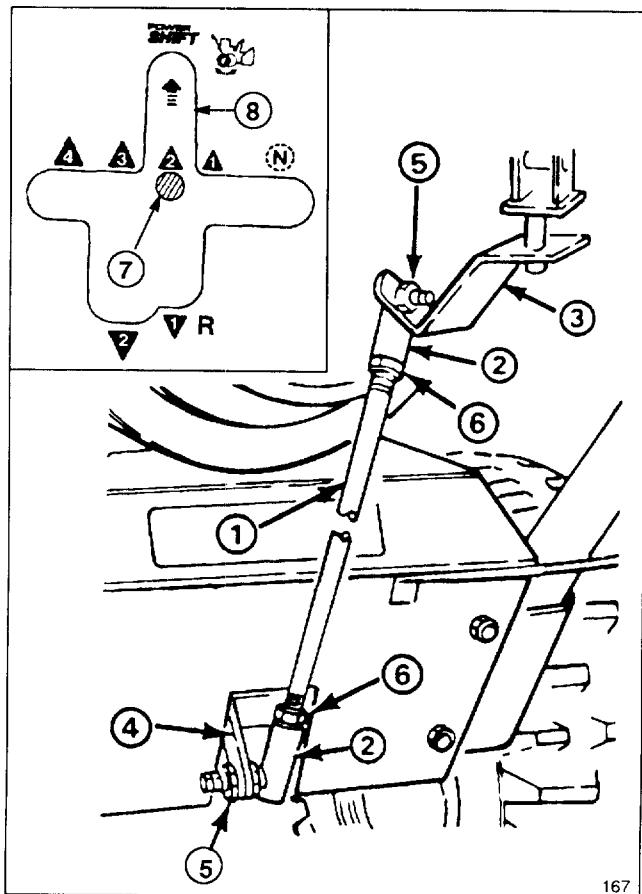

Figure 4
## INSTALL SHIFT ROD (Fig. 4)
**Note:** If gear shift lever is not aligned with Power Shift slot in control panel (Fig. 4, inset), shift rod length must be adjusted as follows: